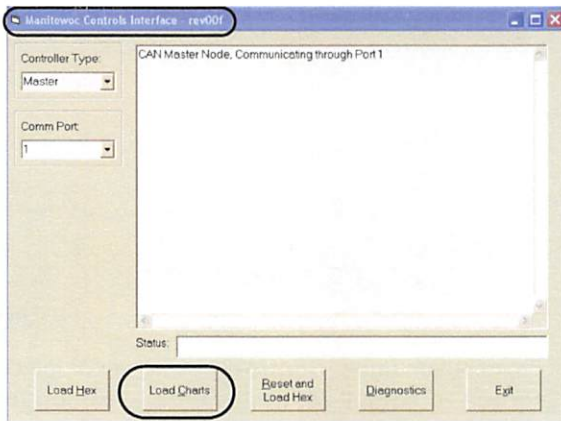

FIGURE 26
9. Go back to the Manitowoc Controls Interface - rev00f or newer screen (see Figure 26).